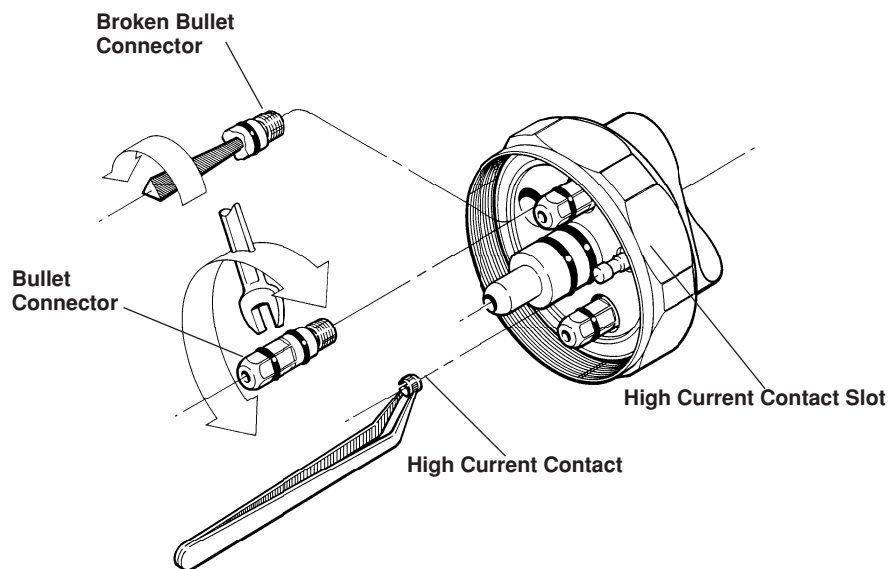

Figure 5-11 Bullet Connector and High Current Contact Removal and Replacement
1. If the bullet connector is not broken, use 9/32-inch nut driver to remove the connector (Figure 5-11).
1. Grab the high current contact with the tweezers and pull off stud (Figure 5-11).